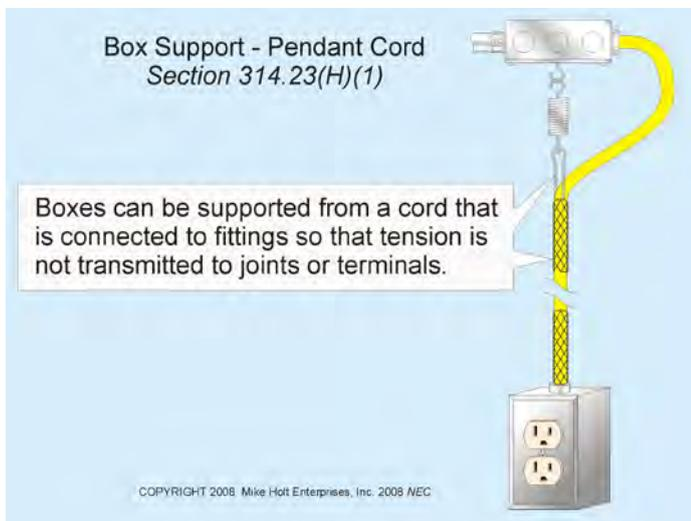

Figure 314-18
(1) Flexible Cord. Boxes containing a hub can be supported from a cord connected to fittings that prevent tension from being transmitted to joints or terminals [400.10]. **Figure 314-18**